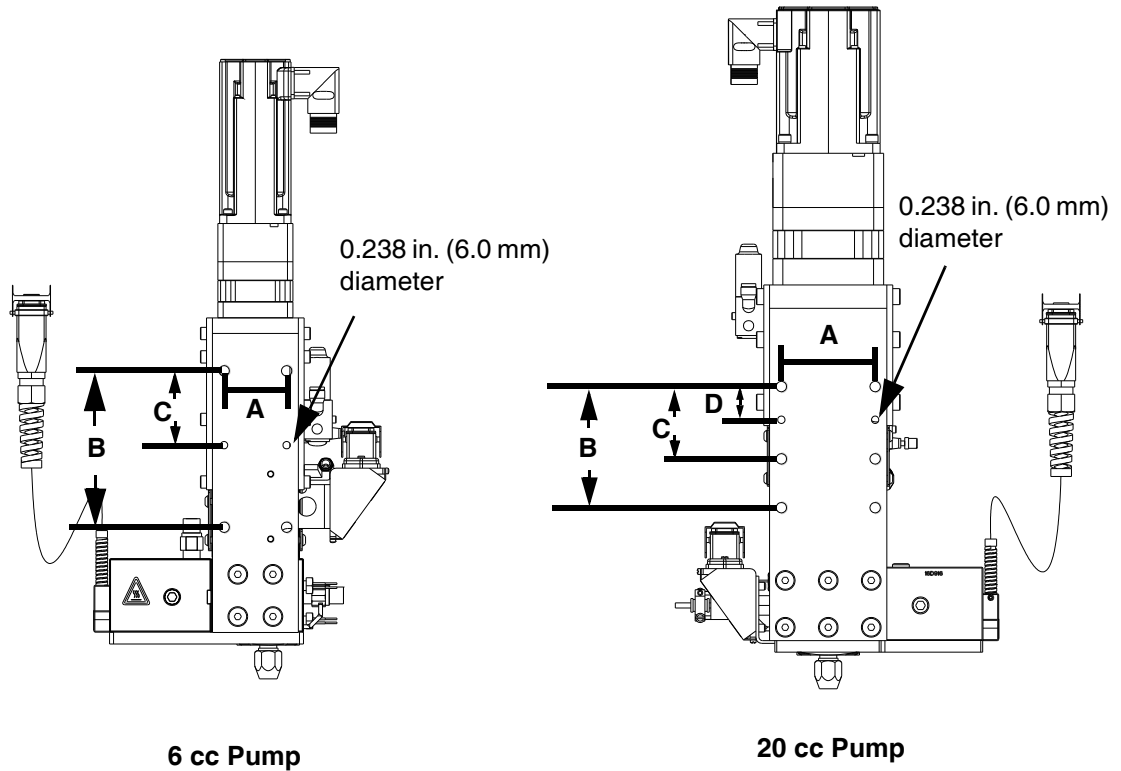

FIG. 7: Gear Meter Assembly Dimensions
- Mount and secure the gear meter assembly to the automation unit (or other mounting surface) with mounting plate. The mounting plate is tapped with M10 x 1.5 bolts. Maximum bolt length through plate is 0.75 in. (19 mm). See the mounting dimensions in Table 4 and FIG. 7.